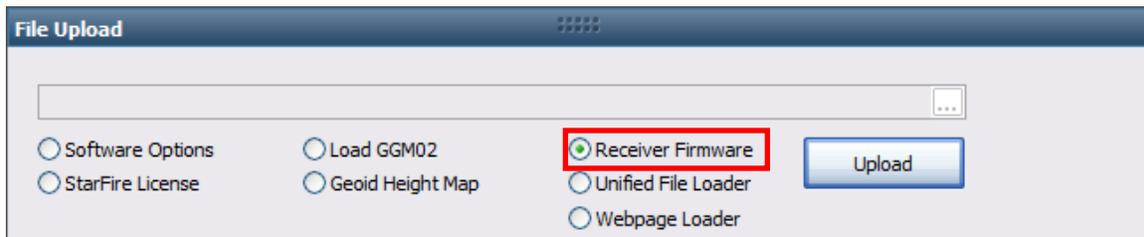

Figure 69: File Upload – Receiver Firmware
2. Select *Receiver Firmware* on the *File Upload* window (see Figure 69).